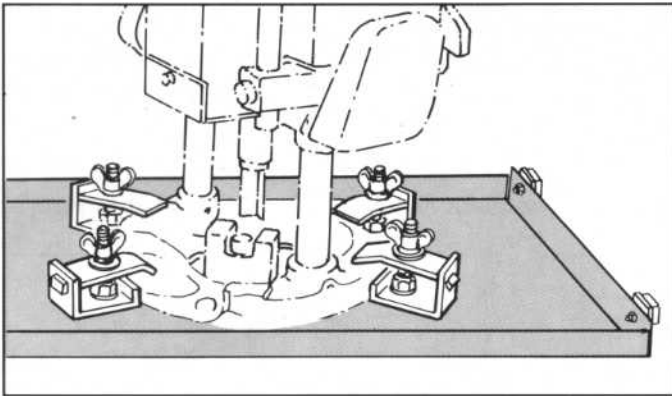

FIGURE 4
The top clamps are secured by the wing nuts (CC), after first placing the large washers (Y) and then the spring washers (AA) onto the coach bolts. **Figure 4.**